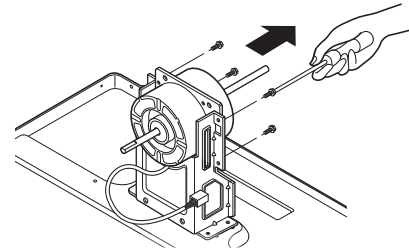

FIG. 10
5. Remove the 4 or 2 screws which fasten the motor. (See Fig. 10)